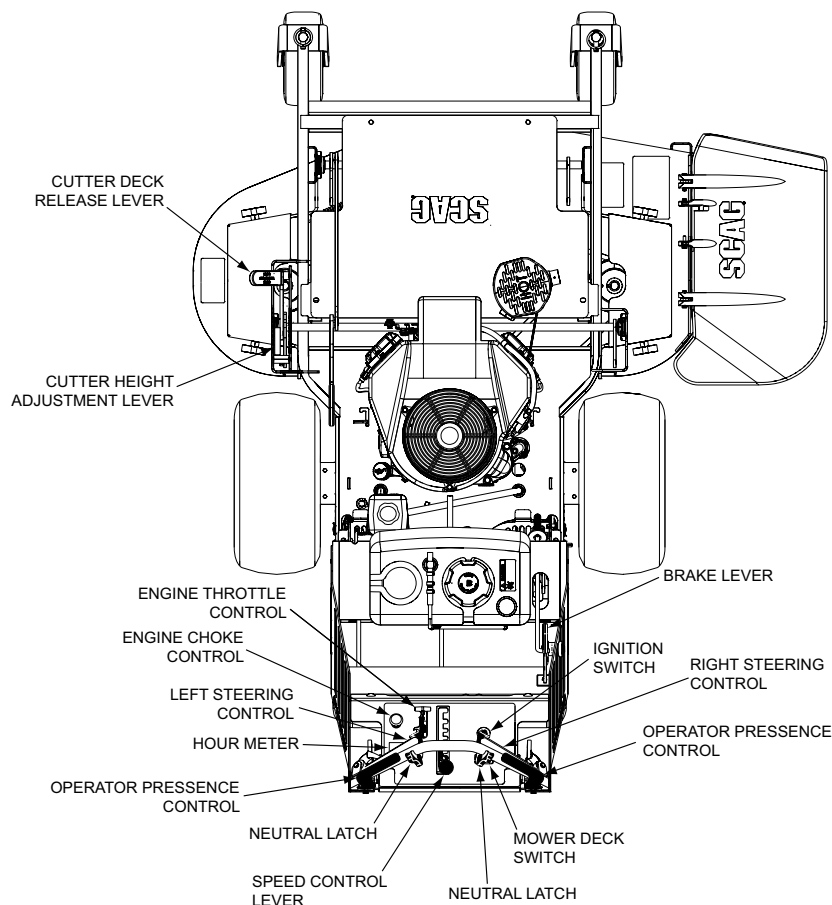

Figure 4-1. Controls and Instruments
1. **Ignition Switch (Figure 4-1).** The ignition switch is used to start the engine. Turn the key to the on position before pulling the recoil starter.
2. **Mower Deck Switch (Figure 4-1).** Use to engage and disengage the mower drive system. Pulling up on the switch will engage the deck drive. Pushing down on the switch will disengage the deck drive.
3. **Engine Choke Control (Figure 4-1).** Use to start a cold engine.
4. **Engine Throttle Control (Figure 4-1).** Use to control the engine speed. Pushing the lever forward increases engine speed. Pulling the lever back decreases engine speed. Full back position is the IDLE position. Full forward is the cutting position.
5. **Left Steering Control (Figure 4-1).** Use to control the mower's left wheel when traveling forward or reverse. Pull upward for neutral and reverse.
6. **Right Steering Control (Figure 4-1).** Use to control the mower's right wheel when traveling forward or reverse. Pull upward for neutral and reverse.
7. **Speed Control Lever (Figure 4-1).** Use to select the forward speed.
8. **Neutral Latch (Figure 4-1).** Use to secure the hydraulic drive system in neutral. Apply neutral latches when parking the machine.
9. **Operator Presence Control (Figure 4-1).** The operator presence control levers must be depressed before the speed control lever is shifted out of neutral or engaging the mower deck.
10. **Hourmeter (Figure 4-1).** Indicates the number of hours the engine has operated. It operates whenever the engine is running. Has preset maintenance reminders for engines and hydraulic system oil changes. Will start flashing scheduled maintenance 2 hours before preset time and continue flashing until 2 hours after. Automatically resets.
11. **Parking Brake Lever (Figure 4-1).** Use to engage and disengage the parking brake. Pull the lever back to engage the parking brake. Push the lever forward to disengage the parking brake.
12. **Cutter Deck Release Lever (Figure 4-1).** Use to lock the cutter deck in the transport position. Push forward on the cutting height adjustment lever and lift up on the cutter deck release lever release the cutter deck for normal mowing.
13. **Cutting Height Adjustment (Figure 4-1).** Use to set the cutter deck at the desired cutting height.